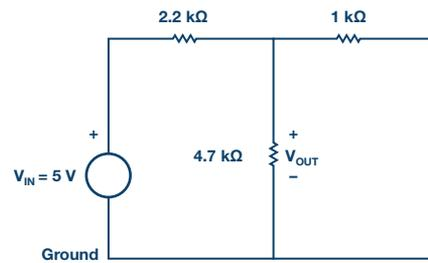

Figure 2. Source acting on circuit.
The proportionality constant  $A$  is sometimes referred to as the gain of a circuit. For the circuit of Figure 2, the source voltage is  $V_{IN}$ . The response  $V_{OUT}$  is across the 4.7 kΩ resistor. The most important result of linearity is superposition.
- ▶ a) Construct the circuit of Figure 2. Using the Voltmeter tool, accurately measure  $V_{OUT}$  for the three input voltages (using the ALM1000 fixed power supply voltages) as shown in Table 1. You should measure and record the actual fixed power supply voltages as well.